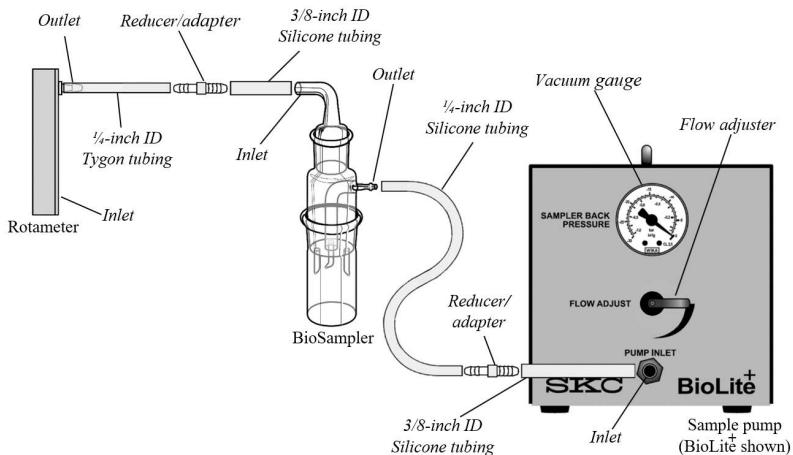

Figure 2. Calibration Train
2. Prepare the calibration train (*Figure 2*): Connect the flowmeter to the BioSampler inlet and the BioSampler outlet to the pump inlet. **Figure 2 illustrates the calibration train using rotameter Cat. No. 320-4A20L, tubing, and reducer/adapters provided in the Deluxe and Basic BioSampler Systems.**